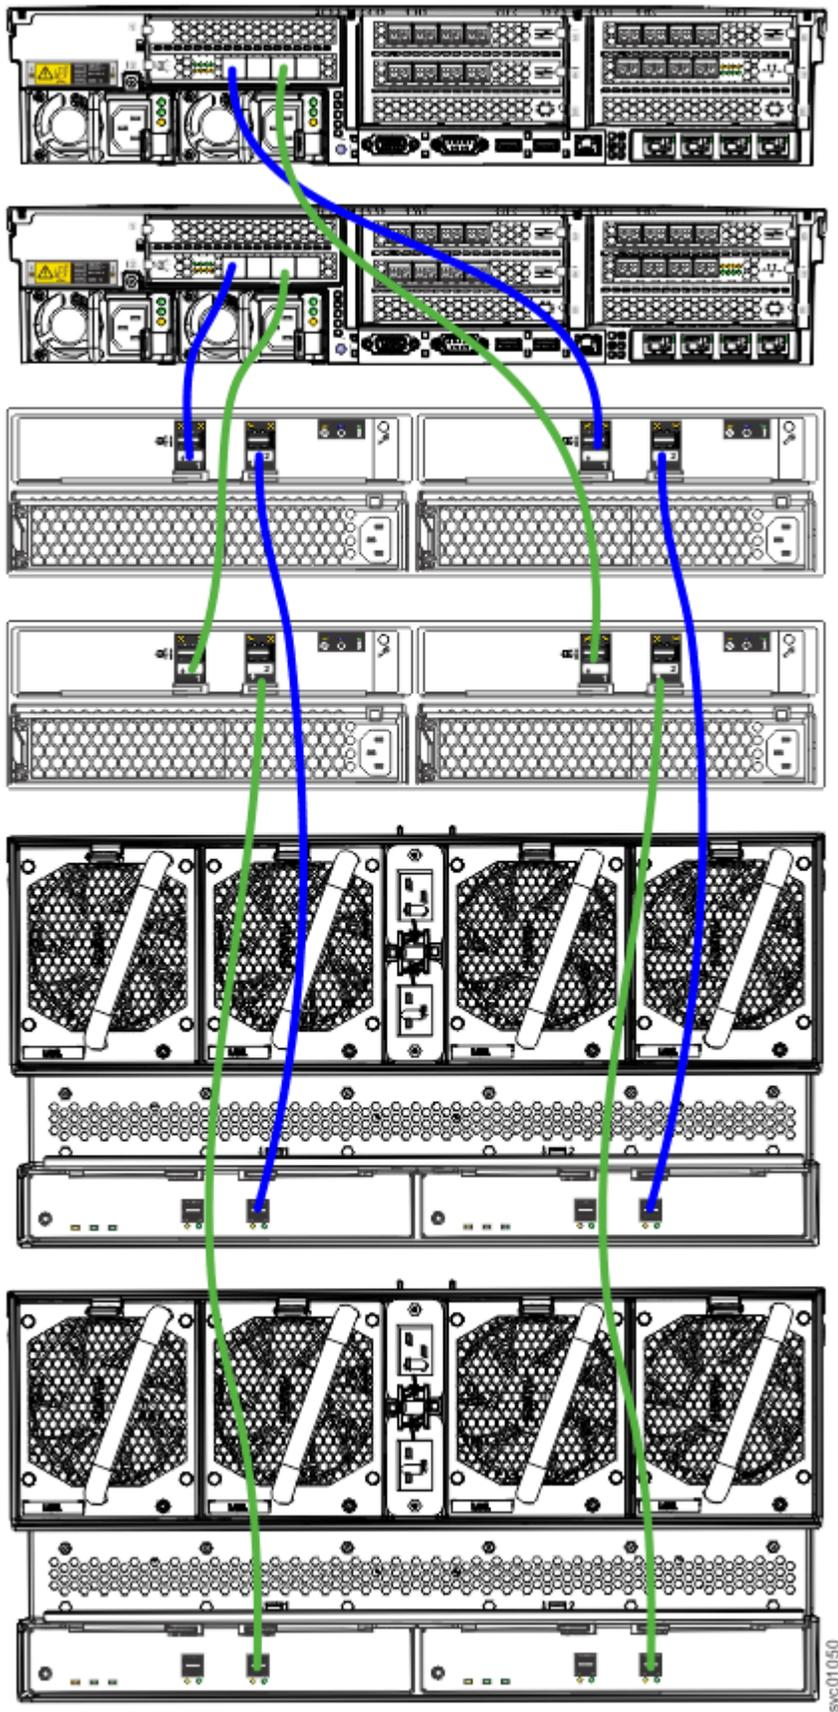

Figure 136. Connecting the SAS cables
1. Install the cables, as shown in Figure 136 on page 124.
Note: Figure 136 on page 124 is provided to show the cable connections between the SAS enclosures and each node enclosure. It does not imply or represent the precise racking order for the enclosures in a rack. However, due to its size and weight, always place the 2145-92F enclosure near the bottom of the rack.
As Figure 136 on page 124 shows, you can combine 2145-24F , 2145-12F, and 2145-92F enclosures in a SAS chain. The limiting factor is the combined *chain weight* of the various components. The maximum SAS chain weight that can be attached to a node SAS port is 10: